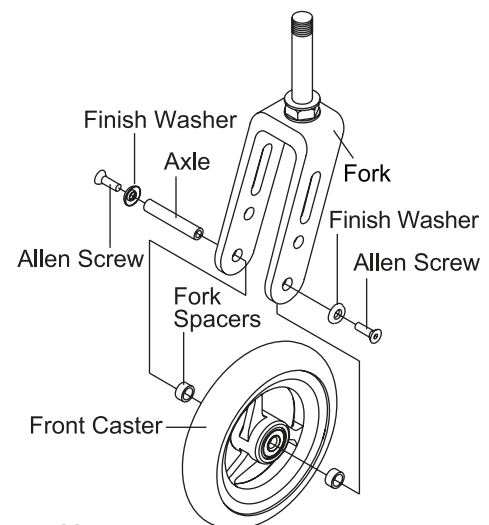

Figure 82
1. Remove the two Allen Screws, finish washers and axle that secure the front caster to the fork. See Figure 82. **Note:** It will be necessary to use one Allen Wrench to hold one screw in place and a second Allen Wrench to loosen the other screw. See Figure 82.